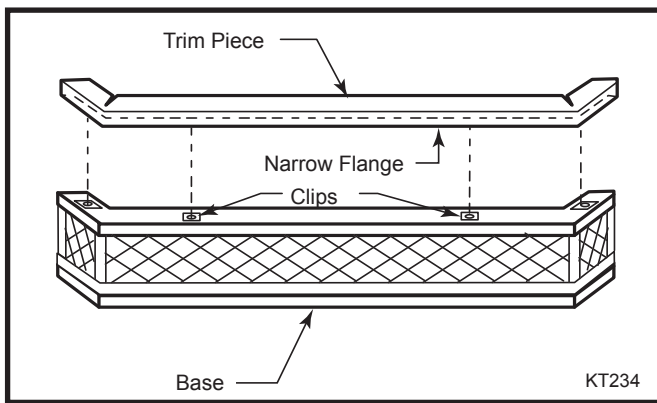

Fig. 3 Base and trim piece shown upside down.
5. The base trim piece is used to close a gap that might exist between the base grille and a lower hearth. Attach the trim section to the base grille by engaging the narrow flange to the clips on the underside of the base grille. (Fig. 3)